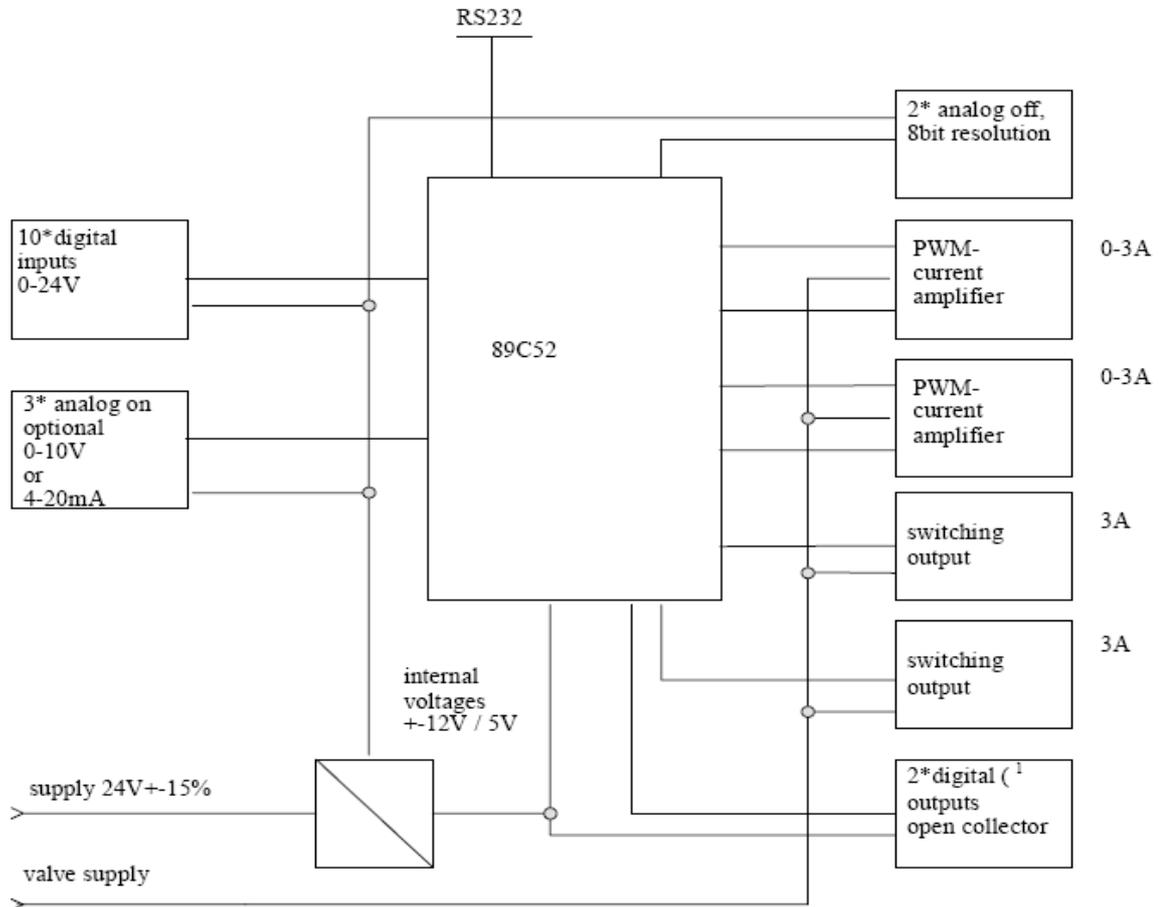

Fig. 1 : Block diagram of the card
**Figure 1** shows the hardware arrangement of the card. In addition to the controller with PID characteristics and power amplifiers it is equipped with two power drivers for digital auxiliary functions. The digital inputs are also designed for extra functions such as e.g. direction of the 4/3-way valve combinations.